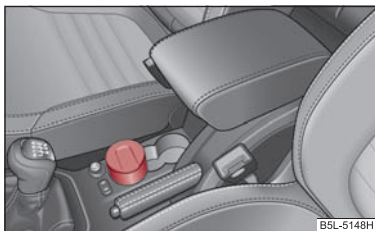

Fig. 82 Centre console: Front ashtray
- Remove the ashtray ⇒ fig. 82 upwards. When removing do not hold the ashtray at the cover - risk of breakage.